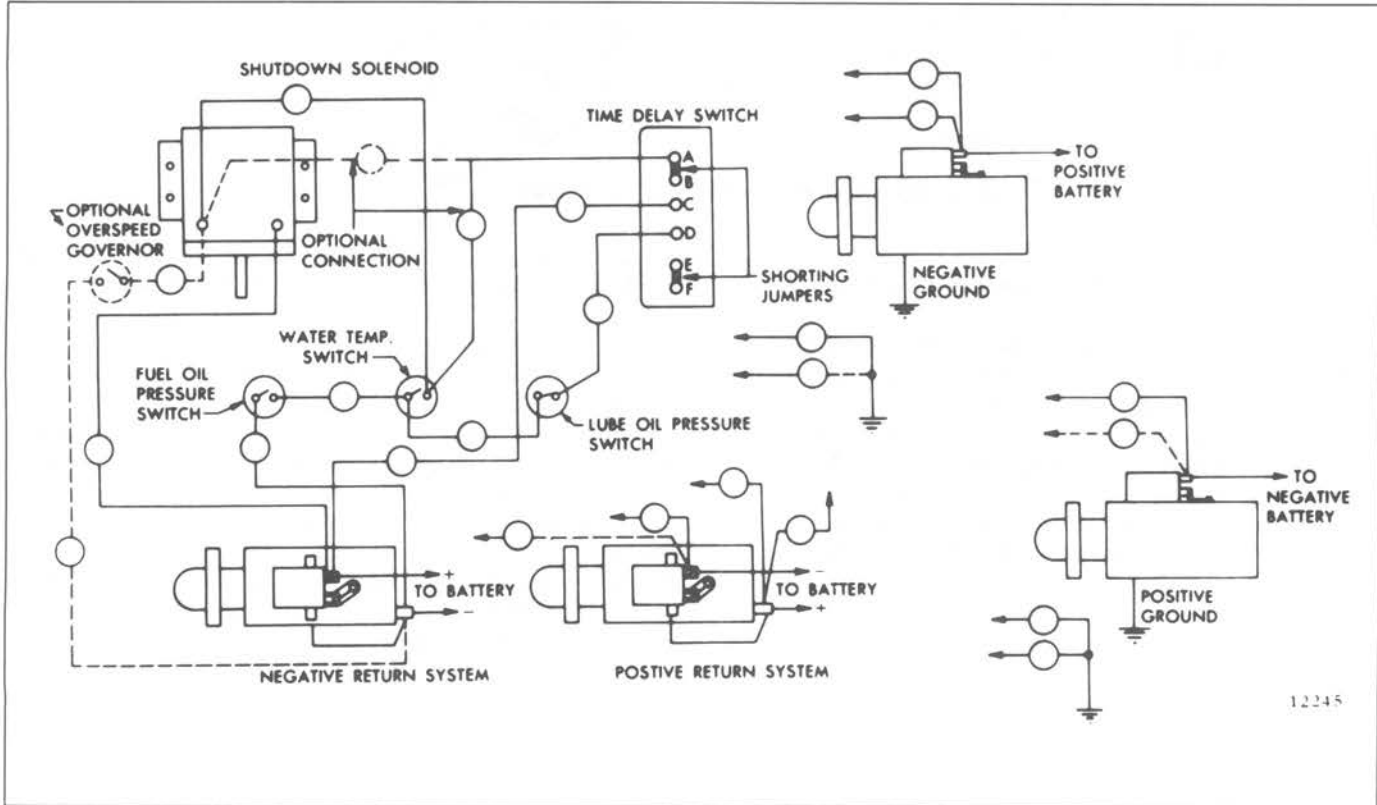

Fig. 4 - Automatic Electrical Shutdown System Diagram
The automatic electrical shutdown system shown in Fig. 4 protects the engine against a loss of coolant, overheating of the coolant, loss of oil pressure or overspeeding. In the event one of the foregoing conditions arises, a switch will close the electrical circuit and energize the solenoid switch, causing the shutdown solenoid to release the air shutdown latch and stop the engine.
Some engines are equipped with an electrically operated automatic shutdown system which incorporates a time delay switch (Fig. 4).
1. Refer to Fig. 4 and remove the time delay switch from the engine.